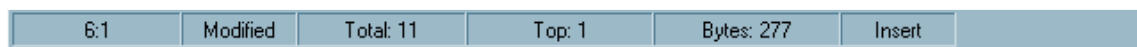

Figure 4-2. WinIDE Status Bar
- **Status Bar** — The status bar (**Figure 4-2**) appears along the bottom edge of the Main window and contains a number of fields (depending on the project) that show: